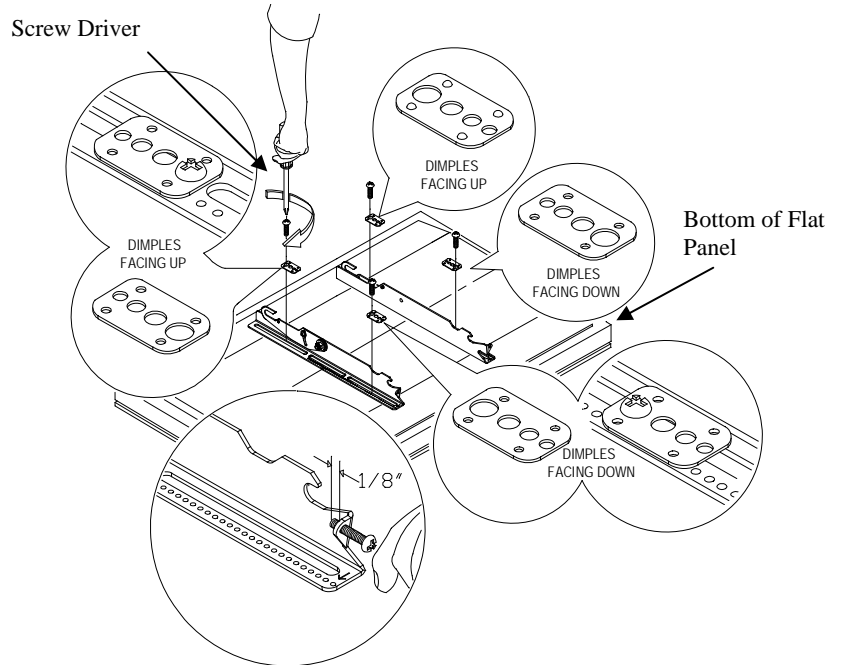

Figure 11
8. Once the mounting brackets are aligned secure the Griplate™ to the flat panel. Use (1) Griplate™ per mounting point (Figure 11).